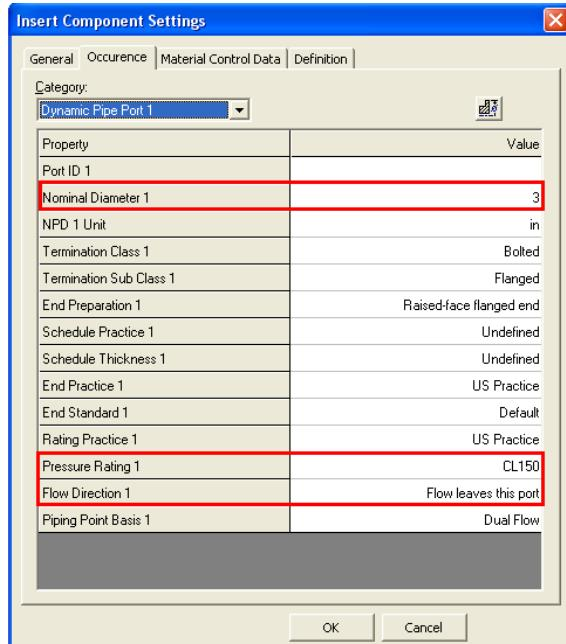

Figure 22: Insert Component Settings Dialog Box
6. The **Insert Component Settings** dialog box appears. Switch to the **Dynamic Pipe Port 1** category under the **Occurrence** tab and change the **Nominal Diameter 1** to **3**, **Flow Direction 1** to **Flow leaves this port** and **Pressure Rating 1** to **CL150** as shown in Figure 22.